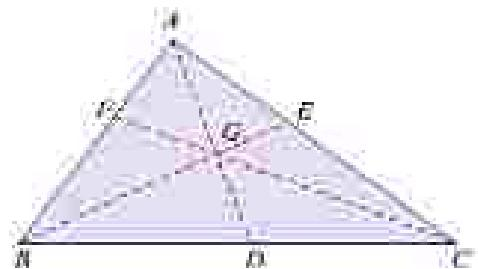

Fig. 6.2. Triangle
3. The centroid of a triangle is at the point, where the three medians (a median is a line connecting the vertex and middle point of the opposite side) of the triangle meet as shown in Fig. 6.2